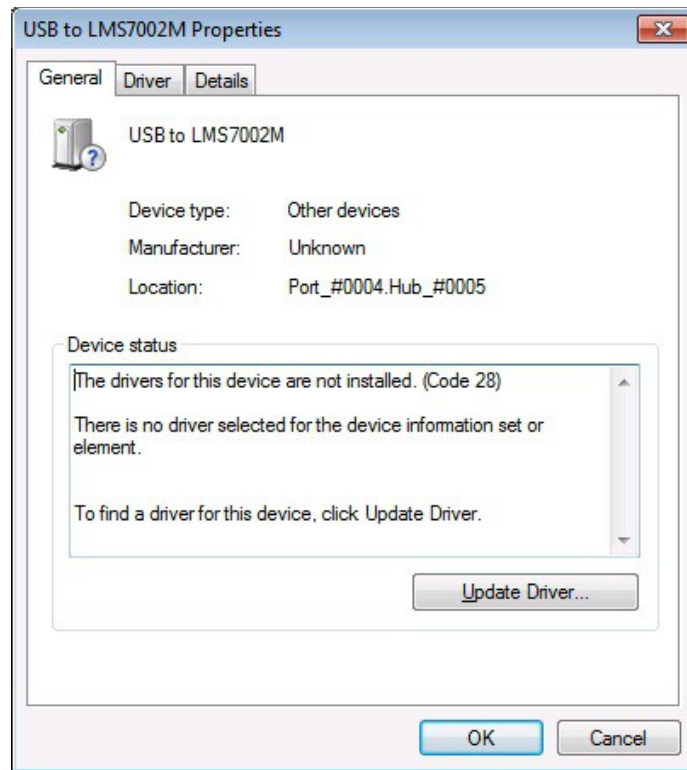

Figure 4 Device properties
4. When a new window pops-up press Update driver (Figure 4)